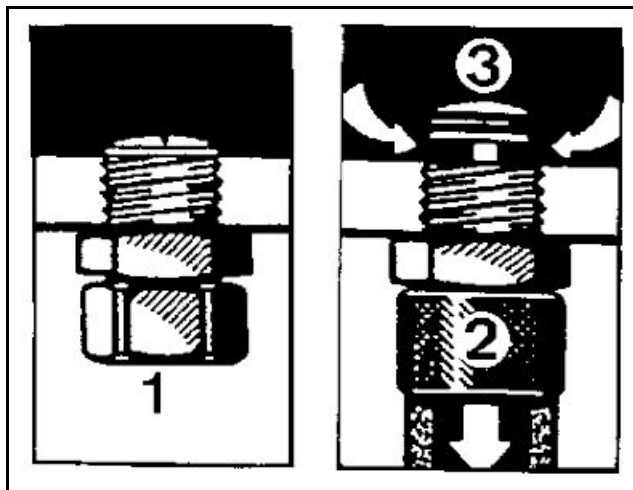

Fig. 287 Drain valve
After an extended period of downtime, drain any water from the hydraulic oil box. To do this, use the drain valve (1) (**Fig. 287**) on the bottom of the box.
1. Remove the lock nut from the drain valve (1) (**Fig. 287**).
2. Screw the drain hose (2) onto the drain valve.